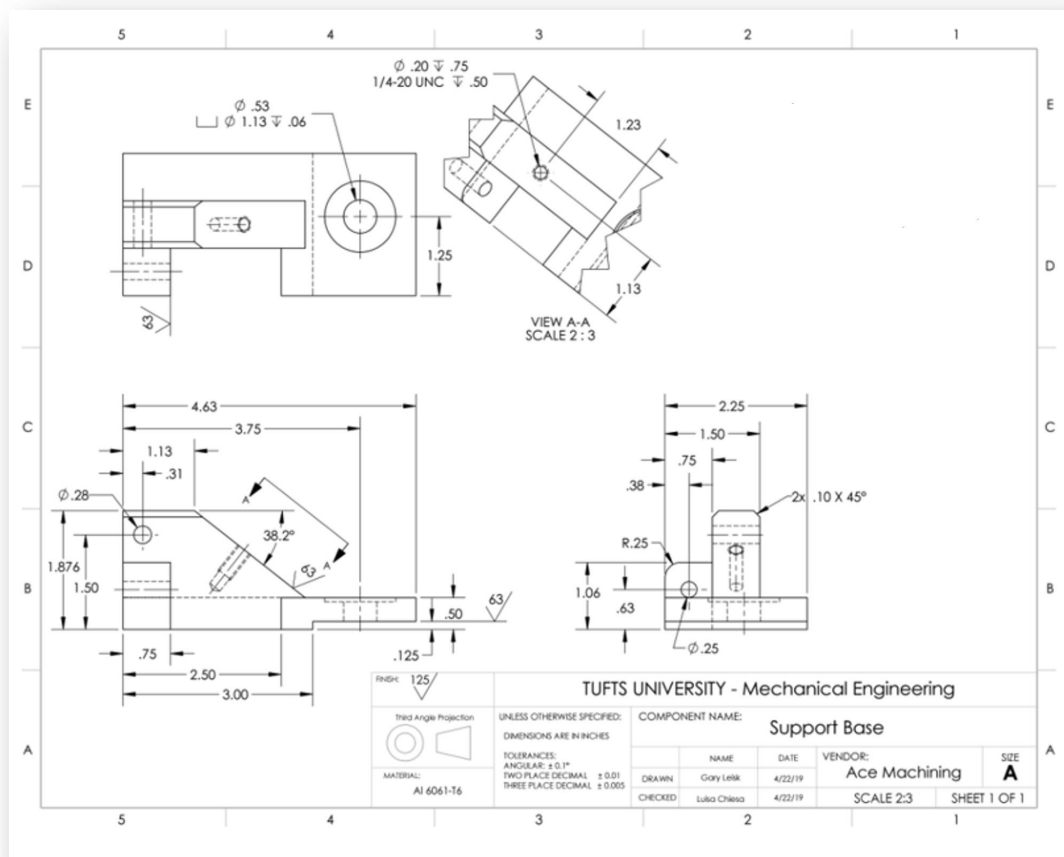
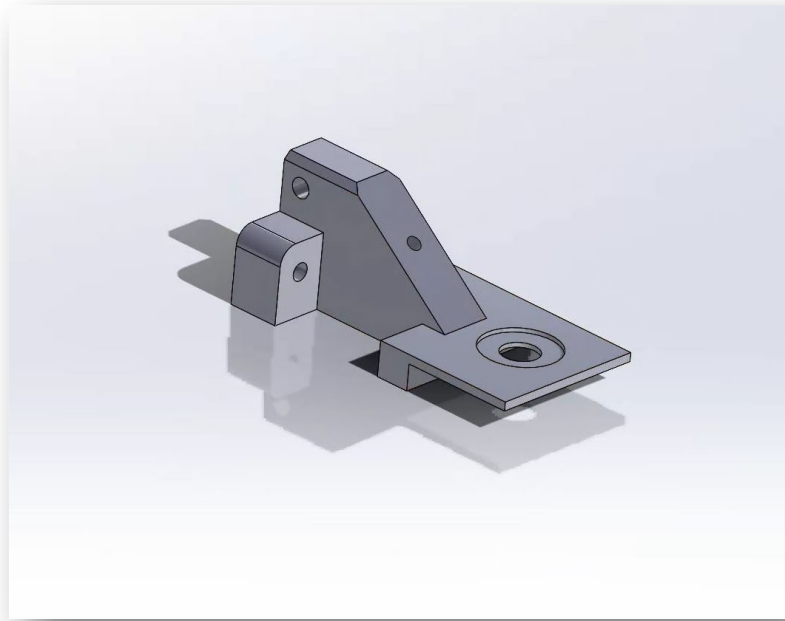

Figure 1
Figure 2
- Using the technical drawing shown below devise an approach to begin the modelling process. In this case sketch out a rectangle, extrude and then proceed to cut away and add using a combination of the sketch tools and features. The technical drawing used is shown below in figure 1 and the resulting 3D model in figure 2.